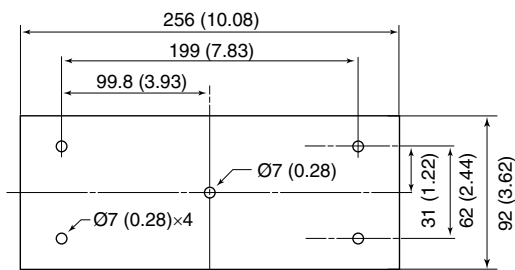

Fig. 1
- ① Hold the mounting bracket up to the selected location and mark pilot holes for the five installation holes using the template.
- ② Drill five holes, 7 mm (0.28 in.) in diameter as shown in the diagram. (Fig. 1)